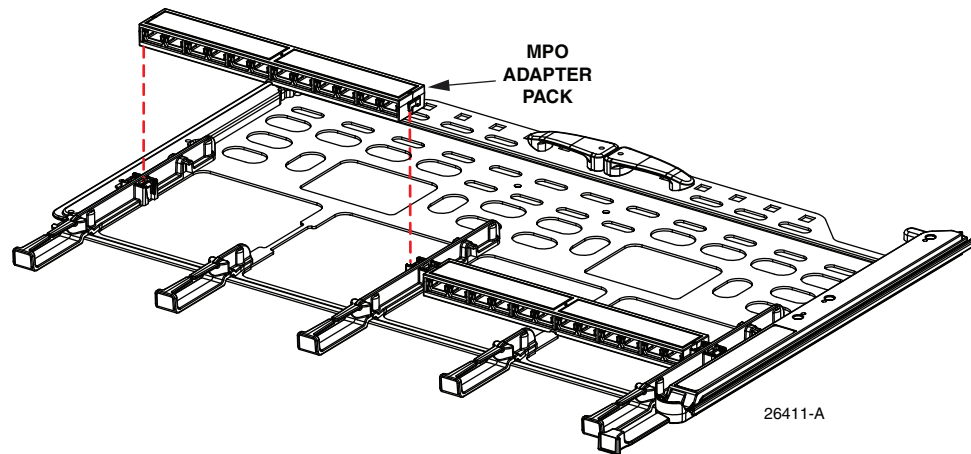
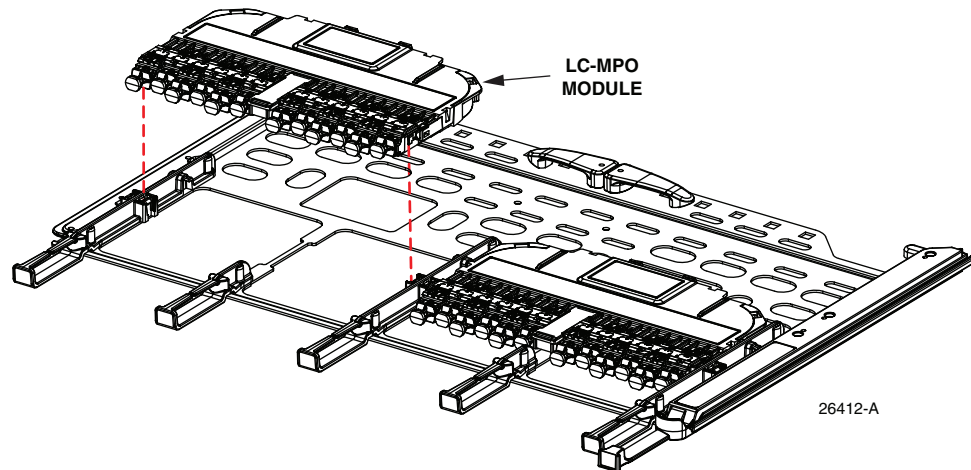

Figure 13. Installing MPO Adapter Pack
Figure 14. Installing LC-MPO Module
3. Hold the adapter pack or module above the blade, align it with the blade position, and press it into place as shown in Figure 13 (MPO adapter pack) or Figure 14 (LC-MPO module).